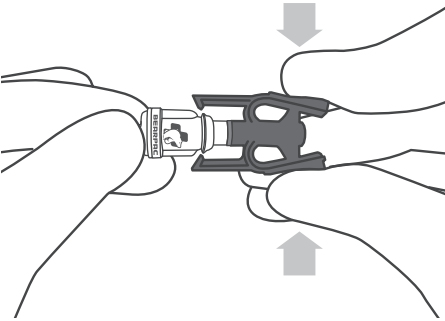

Fig. 7
19. Disconnect the drainage line by holding the catheter valve firmly with one hand and squeezing both sides of the (blue) male catheter connector clip with your other hand. (Figure 7) This will allow the catheter connector clip to separate from the catheter valve.